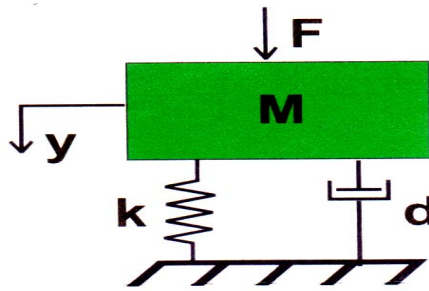

Figure 2
- Q7) a)** For the system in Figure 2, assume M =mass=1kg, k =stiffness=2 N/m and d =damping=0.5 Ns/m. Also, F =force input in N and y =displacement output in m. **[10]**